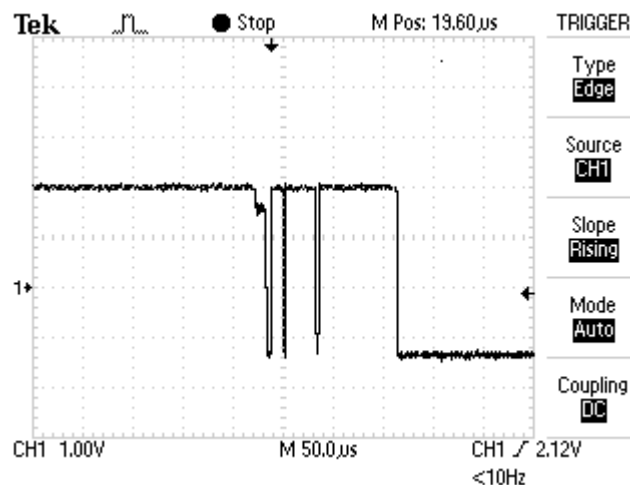

Figure 3 – Oscilloscope trace of a button press
- You may have noticed that, in your “latched” button state program, the LED sometimes doesn't behave as expected – this is because the mechanical contacts on the switch may “bounce”, triggering the latch in quick succession. Figure 3 shows an oscilloscope trace of a button being pressed.